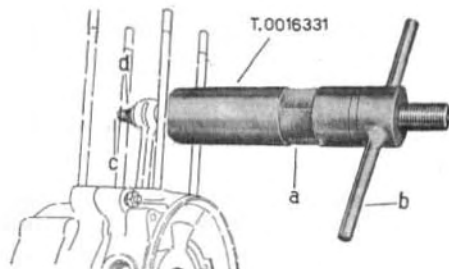

Fig. 99 - Bush extraction.
1. - Remove the worn bush by means of extractor T.0016331 (see Fig. 99) as follows: